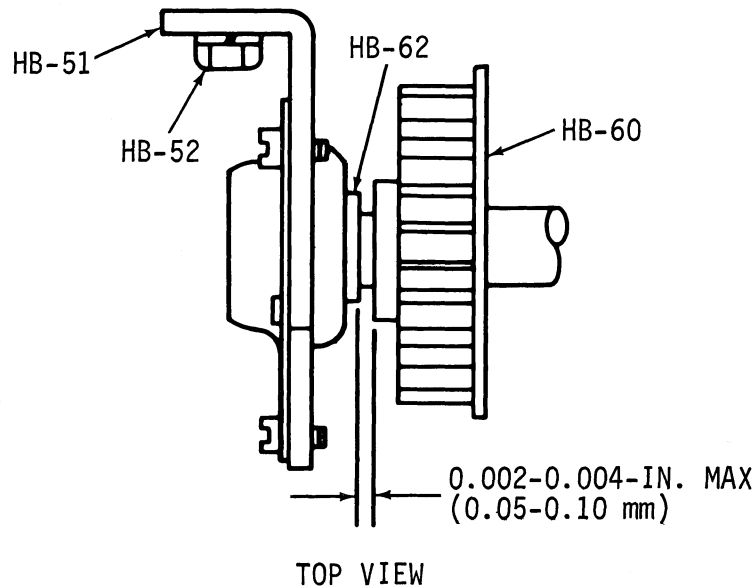

Figure 5-3A. BUSHING END-PLAY ADJUSTMENT FOR PRELOAD CLUTCH SHAFT (HB-50)
G. Bushing End-Play Adjustment (Pre-Load Clutch) (Refer Fig. 5-3A)